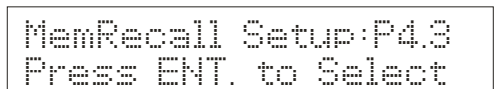

Figure 173
2. Use  $\Delta/MI$  key to scroll to program *MemRecall Setup: P4.3*. See **Figure 173**.